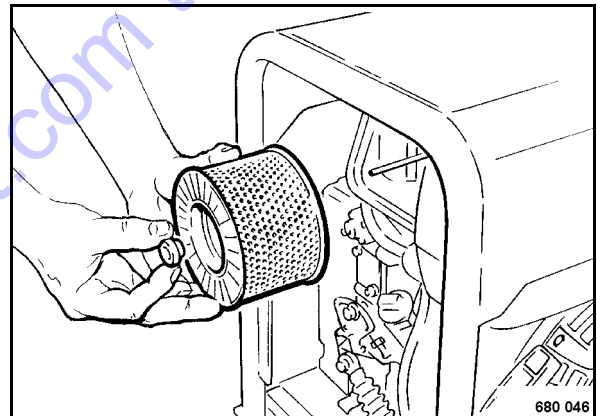

Fig. 60
- Unscrew the knurled nut and take the air filter cartridge out (Fig. 60).